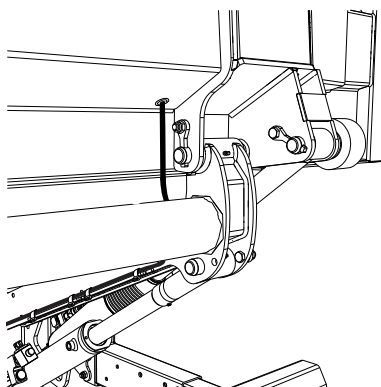
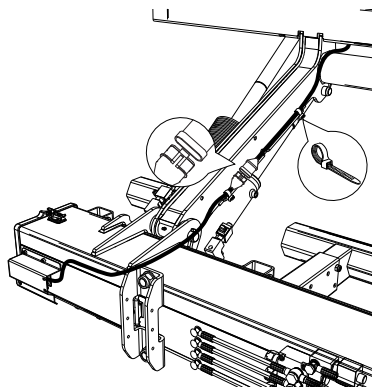
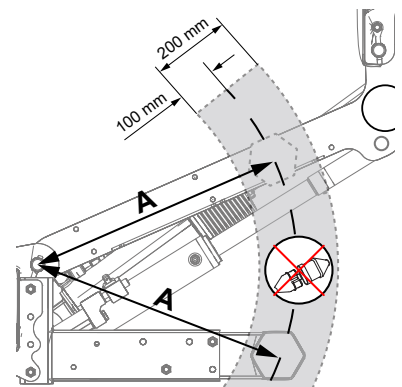

Figure 60. Installing cabling
Figure 61. Installing cabling
Figure 62. Quick connector location
2. Route the cable and install with cable ties according to Figure 60 and Figure 61. The quick connector must be positioned in such a way that it does not conflict with the underrun protection while the lift arm is in motion. Measure the distance (A) from the centre of the lift arm shaft to the centre of the underrun protection; see Figure 62.
3. Measure the same distance (A) on the lift arm; see Figure 62.
4. Then place the quick connector at least 100 mm outside or inside the measured point (A); see Figure 62.